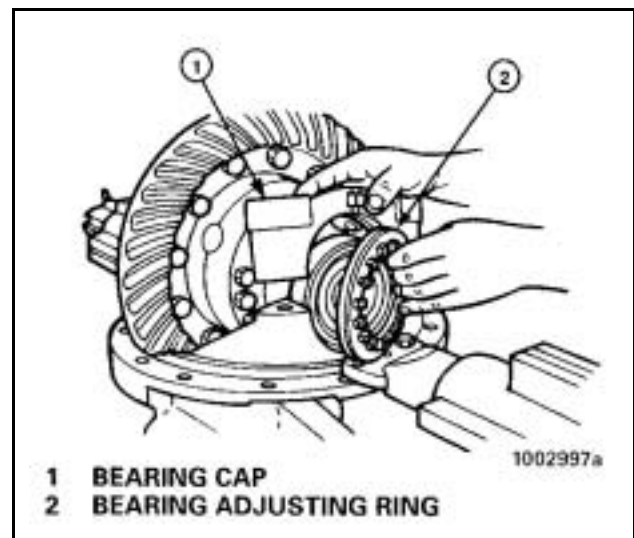

Figure 16
7. Remove the bearing caps and bearing adjusting rings from the carrier. **Figure 16.**